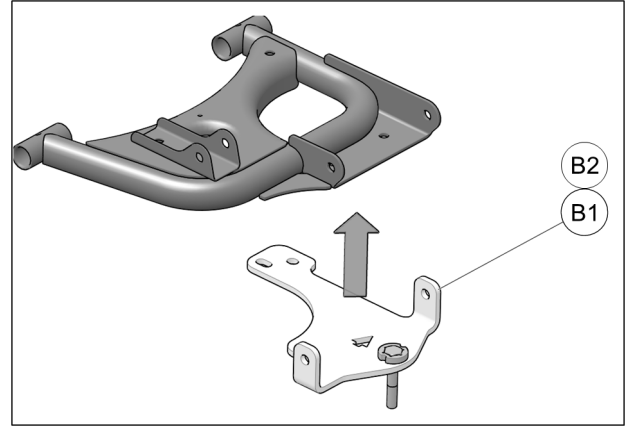

Fig. 7
6. Position anchor bracket (**B1-B2**) under lower rear suspension arm. See Fig. 7